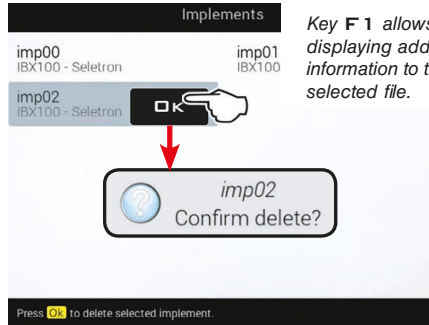

Fig. 305
- Scroll the list of the names present inside memory: select the desired implement (Fig. 305) and press **OK**.